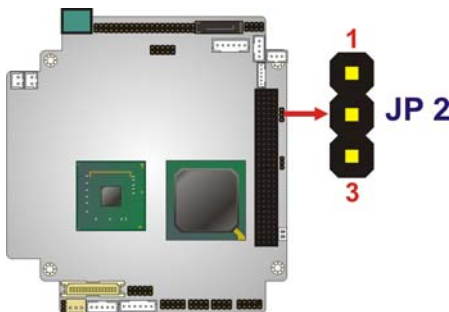

Figure 4-6: PCI-104 Voltage Jumper Location
- Jumper Location:** See Figure 4-6